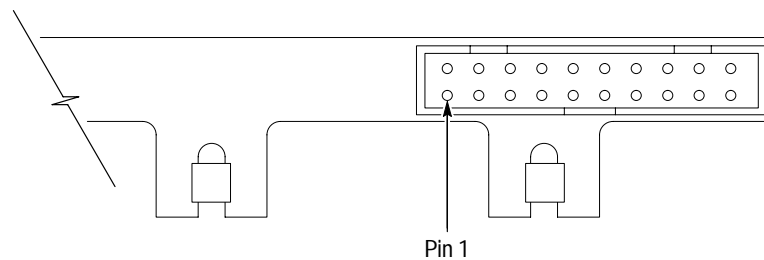

Figure 11: Pin 1 Location on the Temperature Sense Board Connector
6. Line up the pin 1 indicator on the Temperature Sense board cable with pin 1 on the connector on the Temperature Sense board. Connect the cable to the connector. Figure 11 shows the location of pin 1 on the connector.